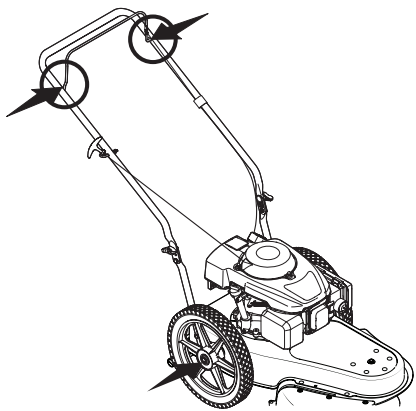

Figure 7
1. Lubricate pivot points on the engine control lever at least once a season with light oil. This control must operate freely in both directions. See Figure 7.